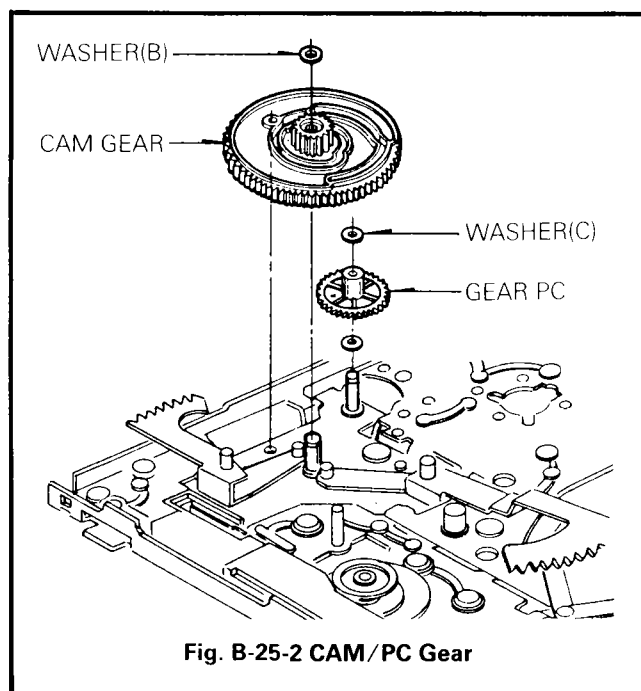

Fig. B-25-2 CAM/PC Gear
25. Cam Gear/Rack Gear T/Rack Gear FL (Fig. B-25-2)
- 2) Remove the washer(B), and then remove the Cam Gear (Fig. B-25-2).